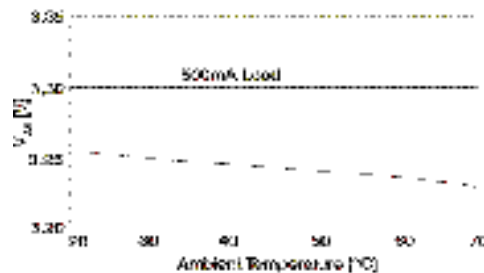

Figure 13. Output Voltage (500mA) vs. Temperature
**Output Voltage vs. Temperature.** Figure 13 shows the regulator  $V_{OUT}$  performance up to the maximum rated junction temperature. The overall 100°C variation in junction temperature causes an output voltage change of about 30mV, reflecting a voltage temperature coefficient of 90ppm/°C.